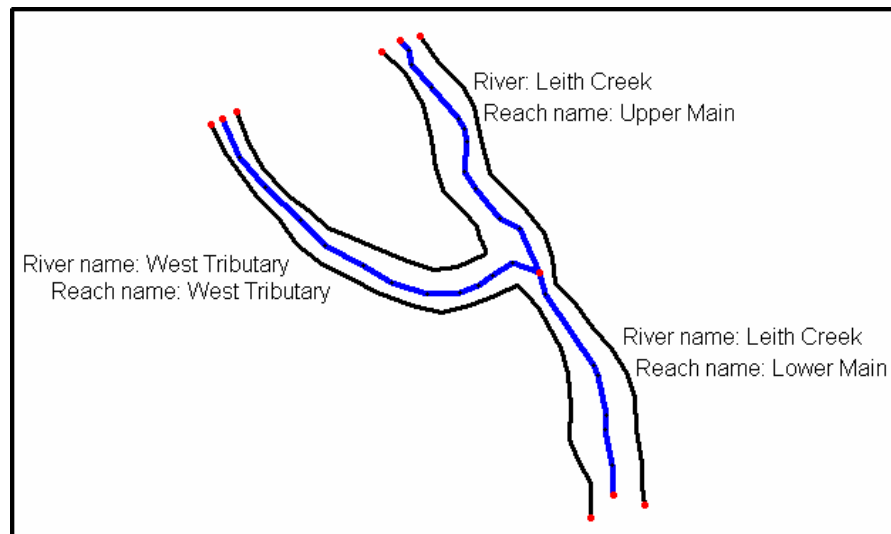

Figure 4-3: River and Reach Names
7. Repeat steps 1 to 4 for each reach in the map as shown in Figure 4-3.